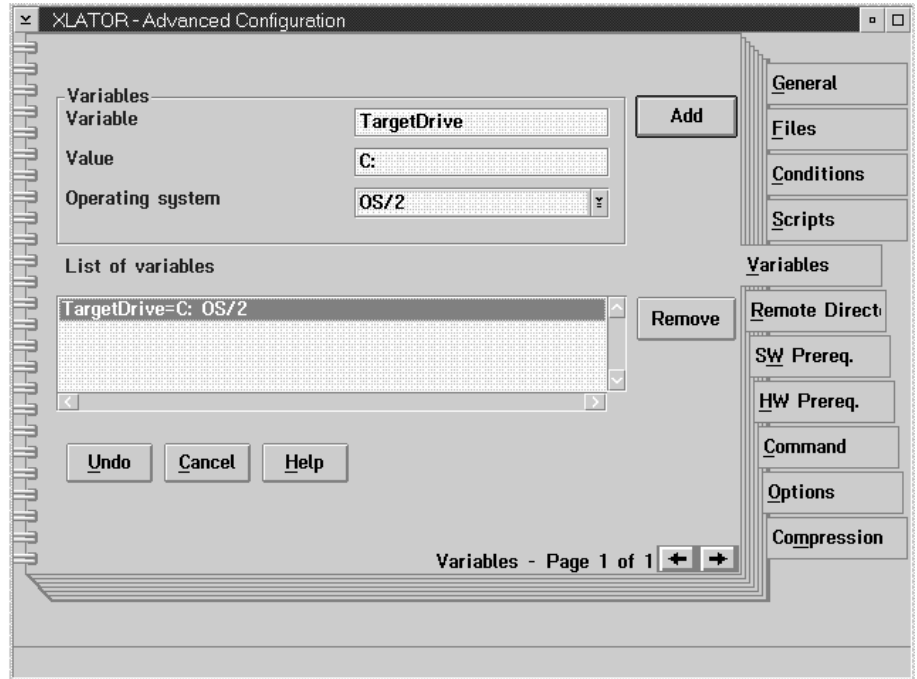

Figure 109. XLATOR - advanced configuration notebook: variables page
- 9 To check the variables associated with the software object, click on the **Variables** tab. The **Variables** page is displayed, as shown in Figure 109 on page 191.